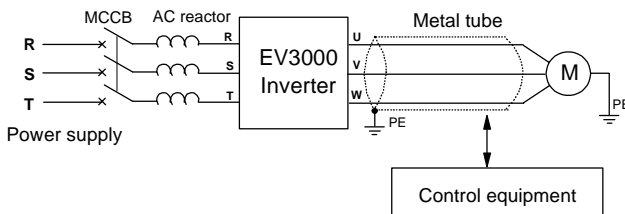

Figure 3-11 Suppressing the EMI of inverter
- 5) To suppress the EMI of the inverter, users may install the dedicated optional noise filter at the output side of the inverter, or lead the output cables through metal tubes and route them separately from the control cables, as shown in Figure 3-11.